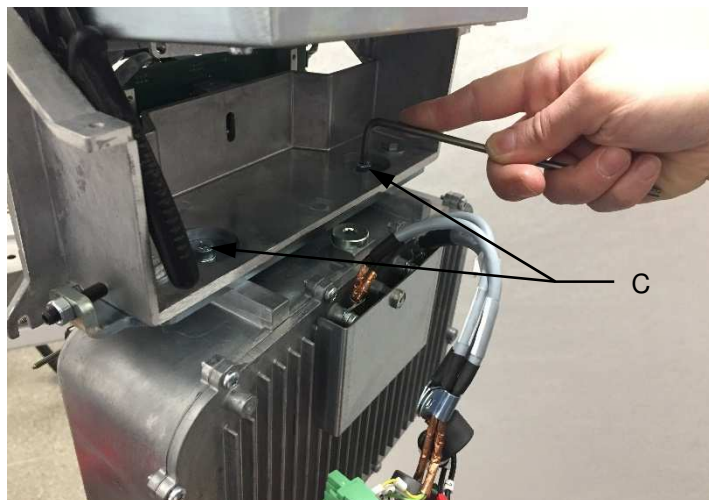

Figure 38
7. Mount the new tubehead, taking care to push it with one hand in the direction of the sensor while tightening the screws "C" (Figure 38).
13. In case the beam is not centered to the sensor, loosen the screws "C" (Figure 38) and act on screws "D" and "E" (Figure 41) following the convention reported below: